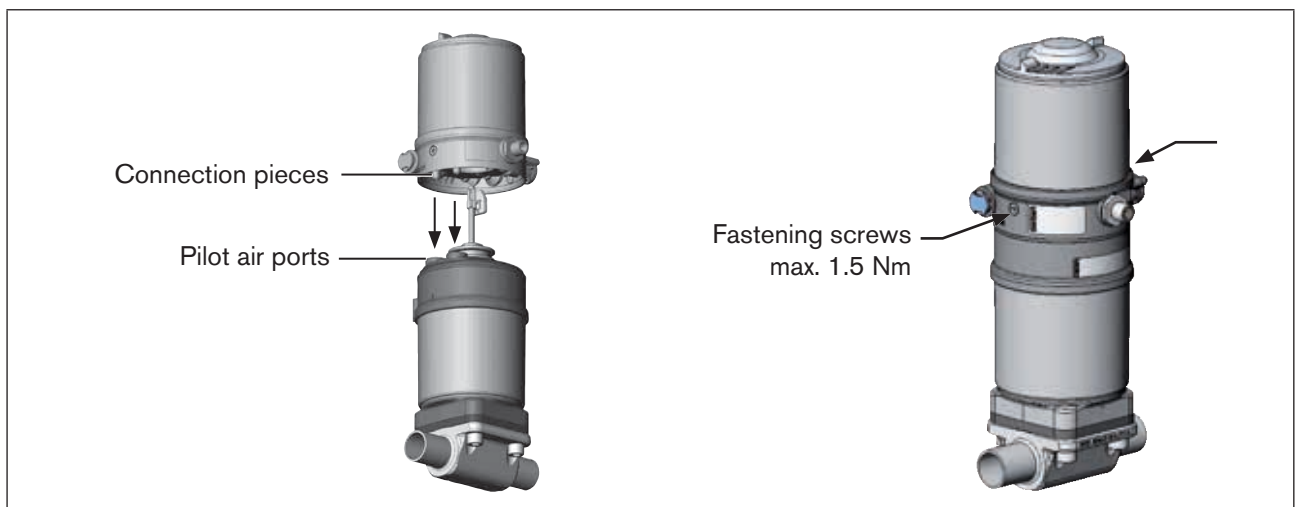

Figure 10: Installation of control head, series 21xx
2. the connection pieces of the control head can be inserted into the pilot air ports of the actuator (see "Figure 10").